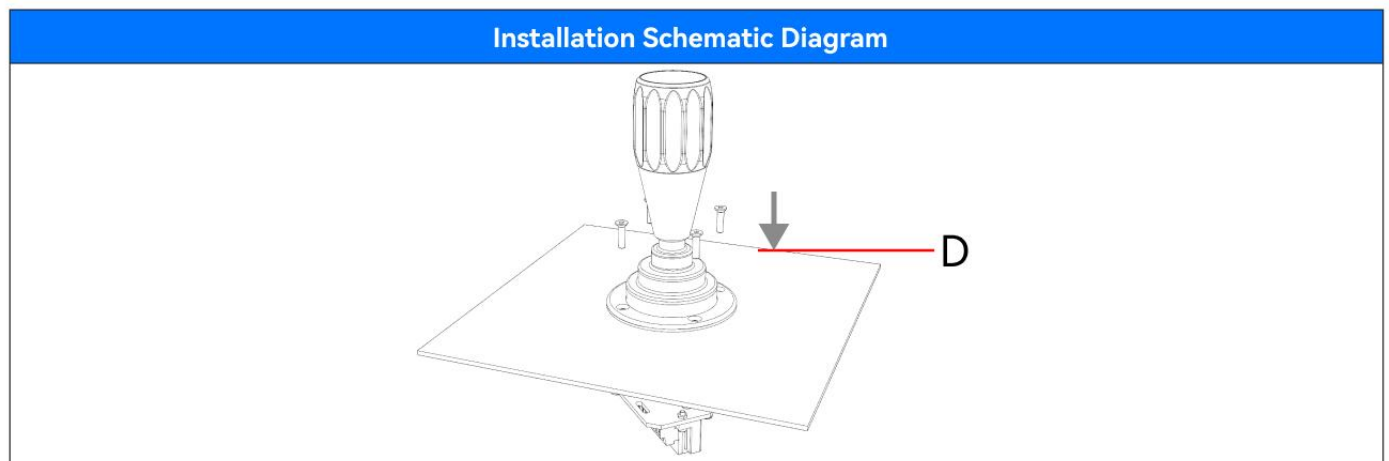

Figure3.3
3. As shown in Figure 3.3, install screw D into the pressure plate threaded hole to ensure secure and reliable fixation.